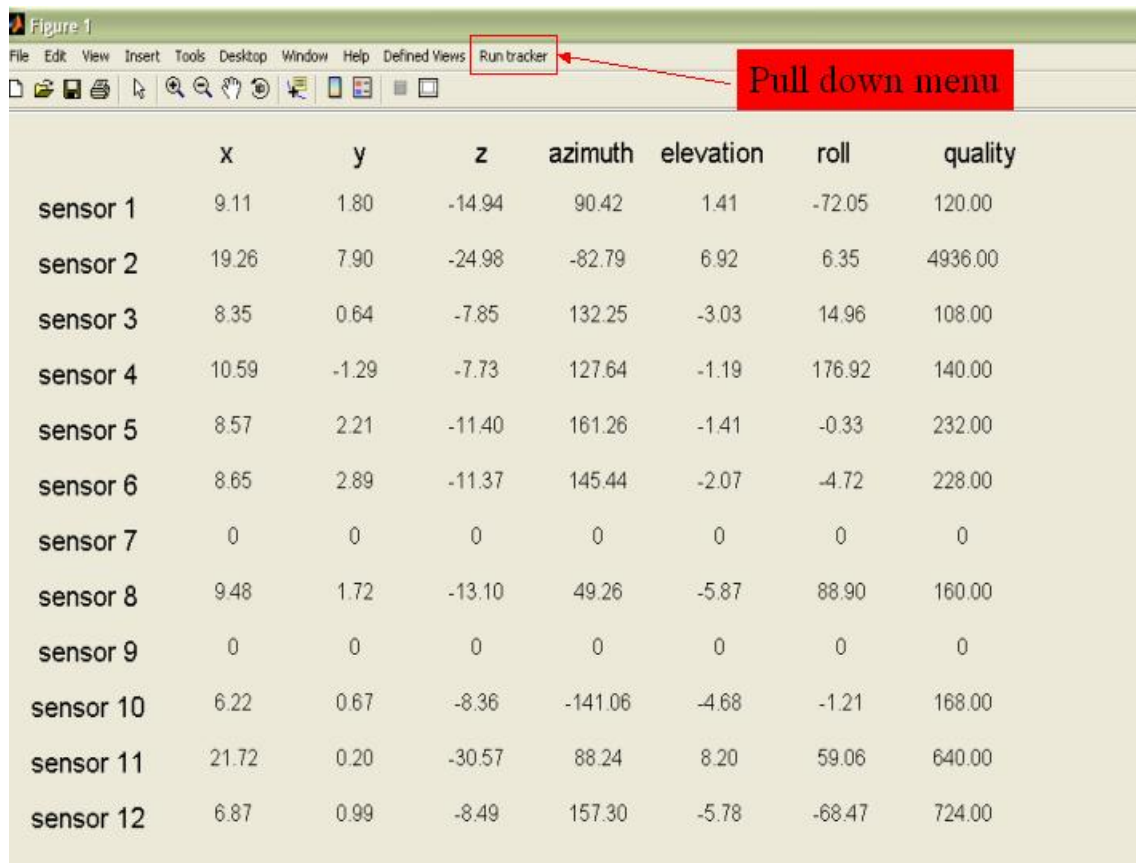

Figure 1 Pull Down menu for start/stop of data collection using the *real_time_Animation* option
selection under the drop-down menu called **Run Tracker**. See *Figure 1*.
- ***tracker_stream_plot***: is designed to place the tracker in so-called 'stream' or synchronous mode. It plots the sensors position after the data is acquired (MATLAB GUI, see Figure (2)).
- ***real_time_Animation***: implements real-time data acquisition and plotting. Data collection is initiated from the drop-down menu **Run tracker** see *Figure 1*.